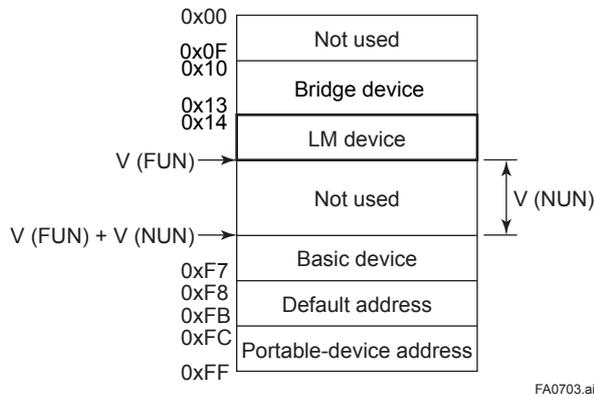

Figure A7.3 Node Address Ranges
(3) In the LAS settings of the FVX110, set the values of V(FUN) and V(NUN) so that they include the node addresses of all nodes within the same segment. (See also Figure A7.3.)